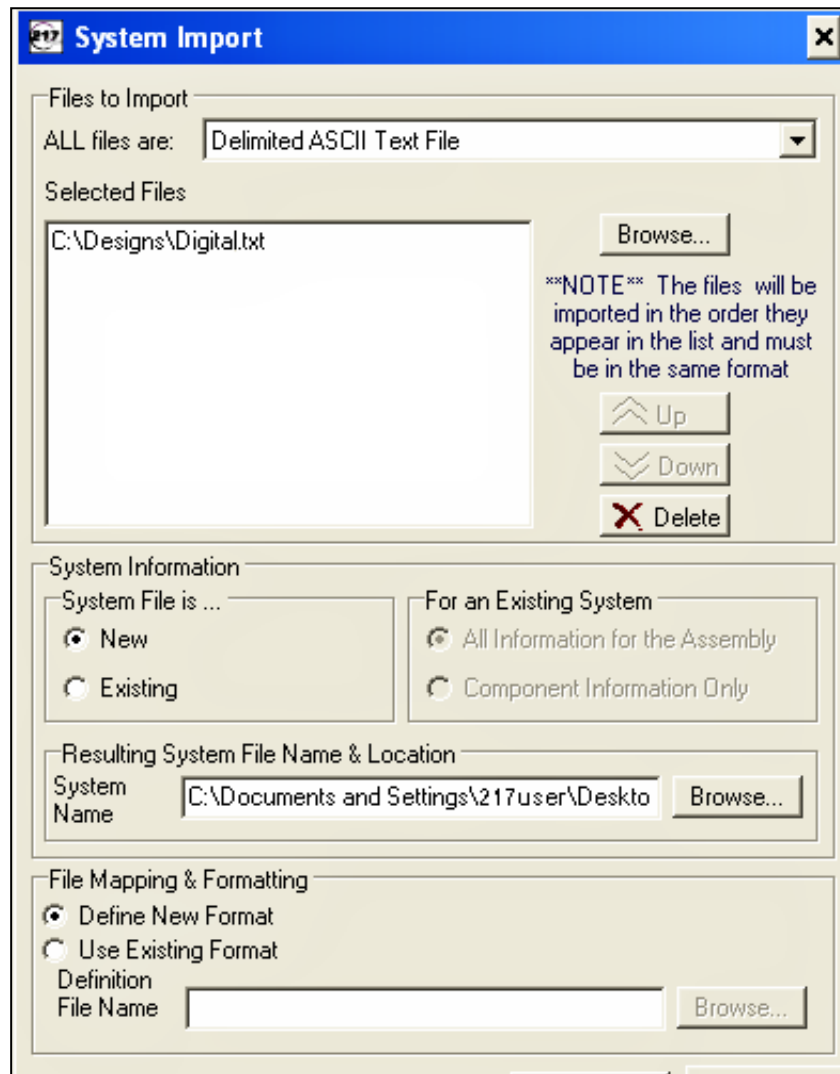

Figure 13. Selecting System Import File Information
25. At the **File Mapping & Formatting** option, select "**Define New Format**", then select **Next>>** (See Figure 13).